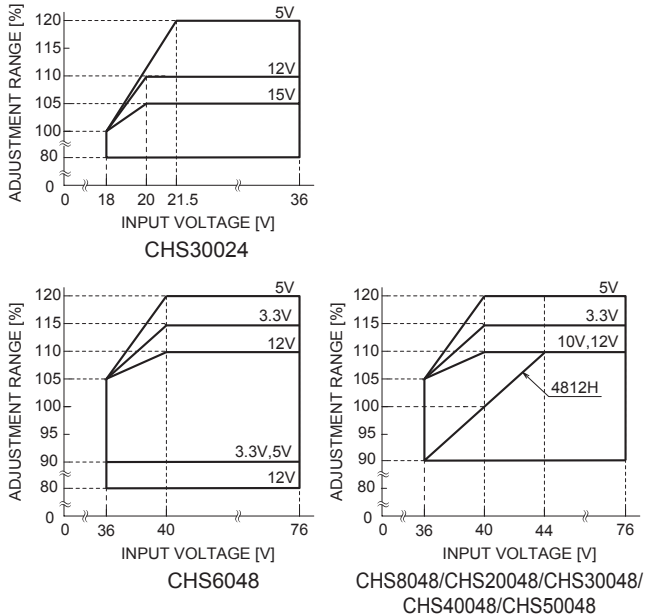

Fig.4.7 CHS Output Voltage Adjustment Range
■When input voltage is 18-21.5V DC or 36-44VDC, the output voltage adjustment range becomes as shown in Fig.4.7.